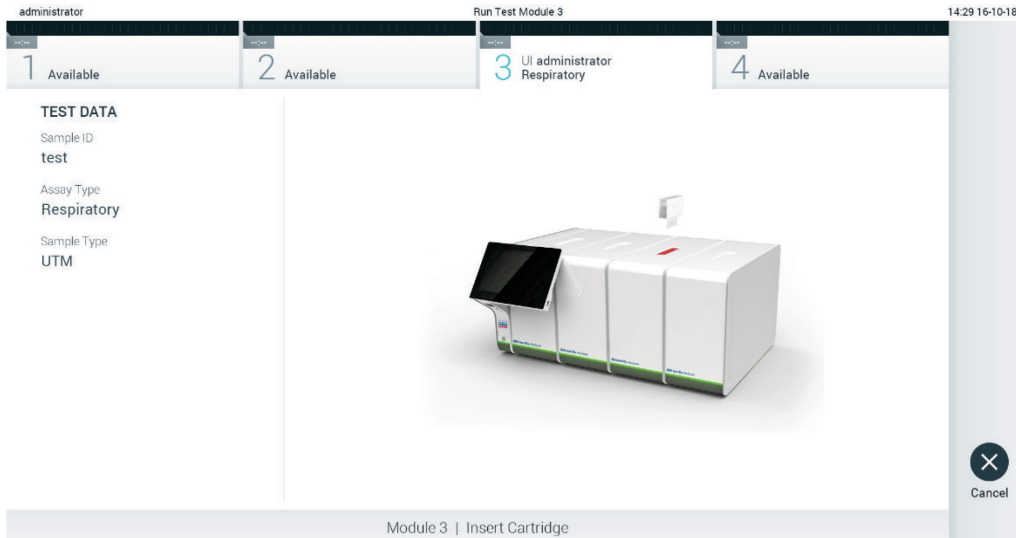

Figure 27. Inserting QIAstat-Dx assay cartridge into QIAstat-Dx Analyzer 1.0.
7. Make sure that both sample lids of the swab port and main port of the QIAstat-Dx assay cartridge are firmly closed. When the cartridge entrance port on the top of the QIAstat-Dx Analyzer 1.0 automatically opens, insert the QIAstat-Dx assay cartridge with the bar code facing to the left and the reaction chambers facing down (Figure 27, next page).